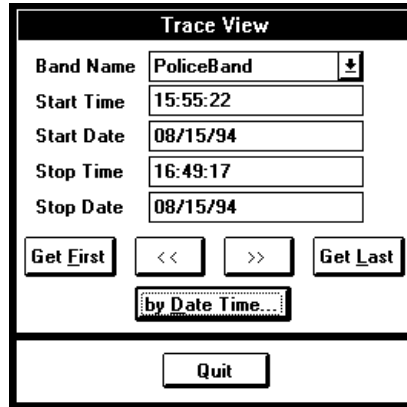

Figure 5-25: Trace View Dialog Box
1. Click on **ArchivedTraces** on the **Multiple Band Window** Menu Bar to open the **Trace View** Dialog Box (Figure 5-25):